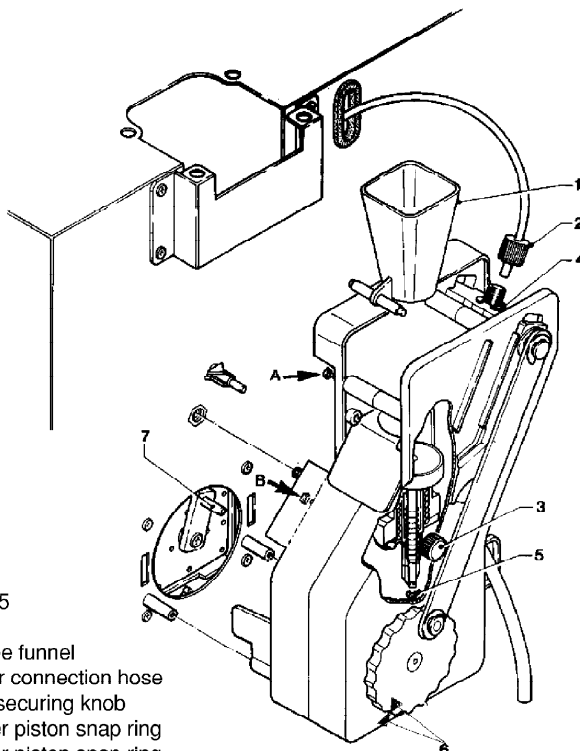

Figure 15
- remove the boiler connection teflon hose from the upper piston, paying attention not to lose the seal (see Figure 15);
The 15V AC voltage required for board operation is supplied by a transformer (see Figure 15) which is protected by a 125 mA T fuse on the primary and a 1.25 A T fuse on the secondary winding. The voltage supply is rectified and stabilised directly by the board.